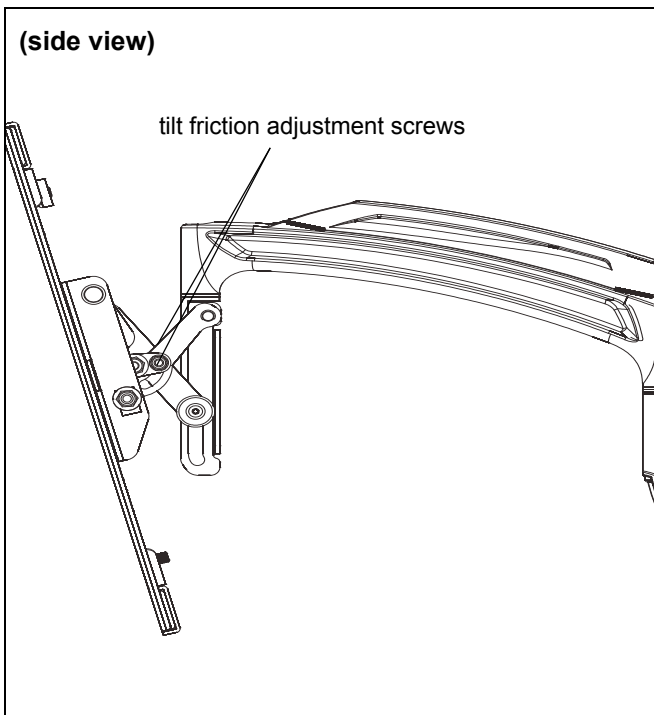

Figure 23
1. Tilt display forward enough to expose screws on the side of tilting mechanism. (See Figure 23)
2. Adjust tilt friction adjustment screw to increase or decrease tilt friction. (See Figure 23)